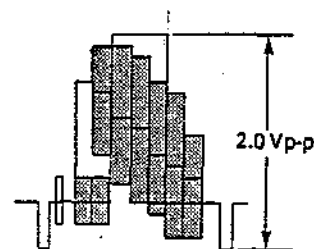

Figure 2-8.
2. Hook up the oscilloscope to pin ⑤ of IC201. Adjust R201 (playback level control) so that the on-screen waveform be $2.0 \pm 0.1\text{Vp-p}$ as shown in Figure 2-8.